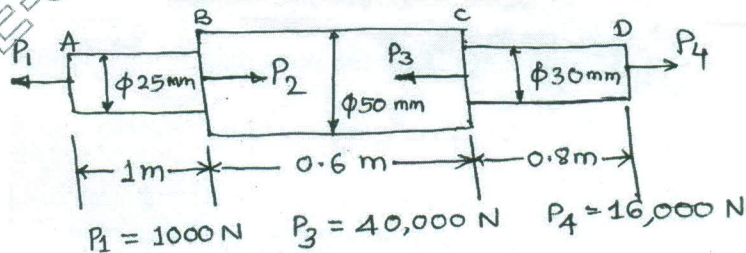

Fig. Q1 (c)
- c. A member is subjected to point loads as shown in Fig. Q1 (c). Calculate  $P_2$  necessary for equilibrium. Take  $E = 2.05 \times 10^5 \text{ N/mm}^2$ . (10 Marks)